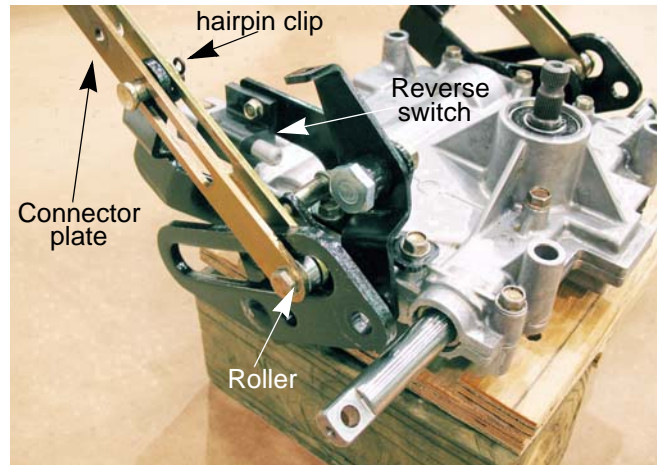

Figure 6.17
1. Attach the drive control link connector plates to the steering gearbox. See Figure 6.17.